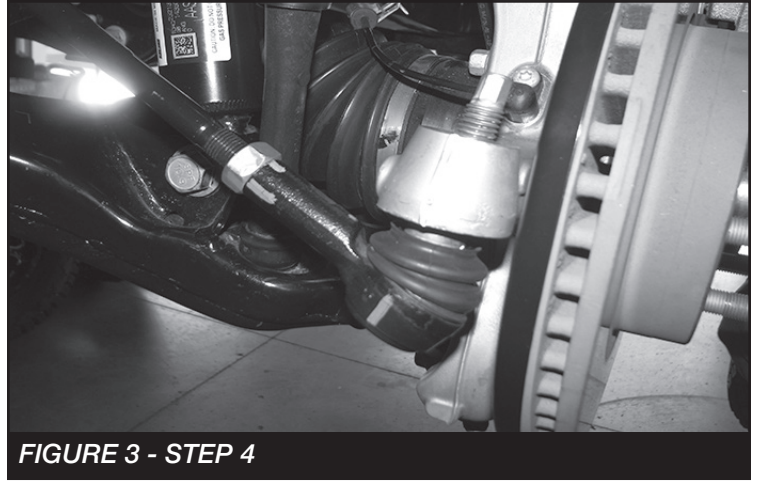

FIGURE 3 - STEP 4
4. Disconnect the tie rod from the factory knuckle. Save hardware. **SEE FIGURE 3**